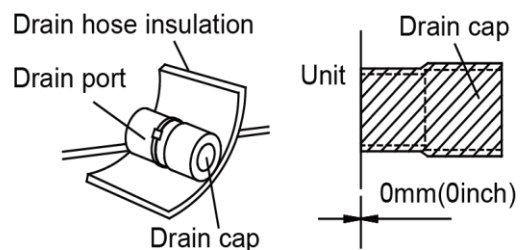

Figure 3-1-14
- (10) The unused drain port also should be insulated properly. (Figure 3-1-14)